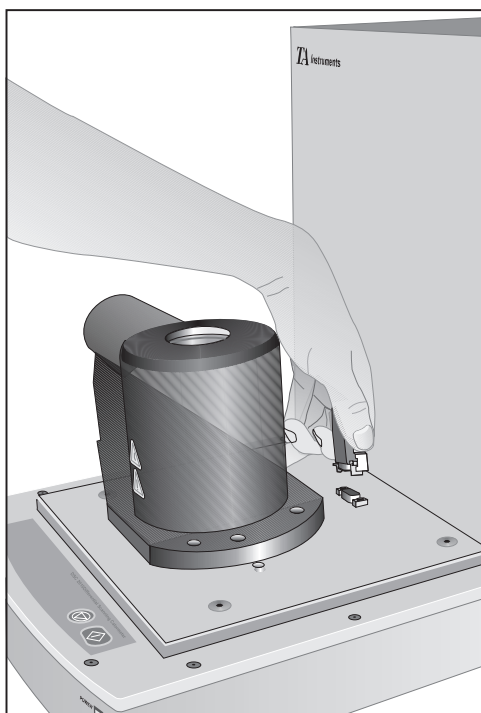

Figure 2.5
9. Plug in the heat exchanger cable as shown in Figure 2.5.